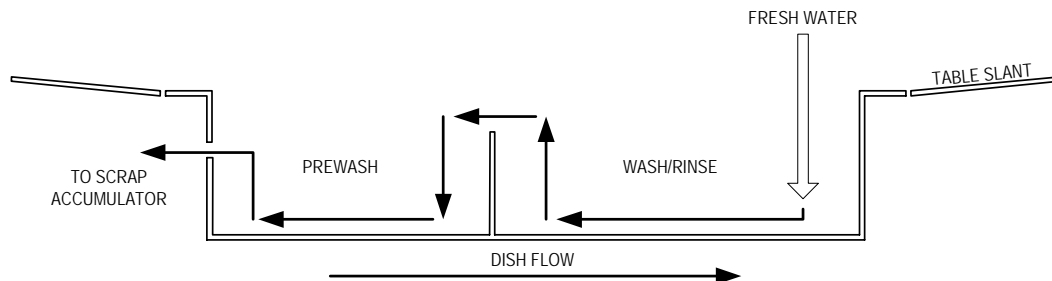

Figure 2.3.3a
1. Tables must slant into the machine for proper drainage (for each 28" of table length a drop of at least ¾" in table height is recommended). See **Figure 2.3.3a**.